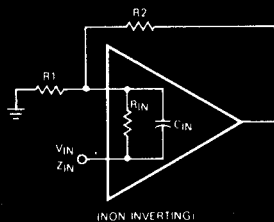

Figure 2
*Non-inverting Configuration (Figure 2)*